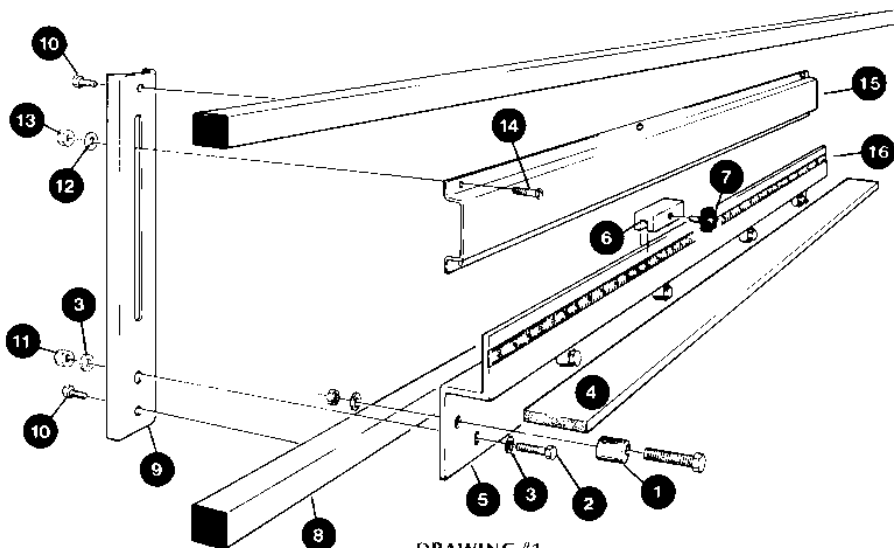

Figure 57: Pre-assembly of Midway Fence
The Midway Fence Accessory is a removable horizontal work piece support that mounts halfway up the tool frame. It allows narrow work pieces to be worked at waist height. The fence consists of left and right fixed brackets that mount to the frame, and removable supports for each side. The accessory contains the components shown in Fig. 57)
1. Lay out the parts shown in Fig. 57 on a horizontal surface (table or bench) for pre-assembly. Note that one end
3. Tip the top of the rear support brackets (#9 in Fig. 57) under the **upper** horizontal frame member (#8), raise the fence, and push the lower ends of the rear support brackets down behind the **lower** horizontal frame member. The nuts may have to be loosened slightly to perform this step.